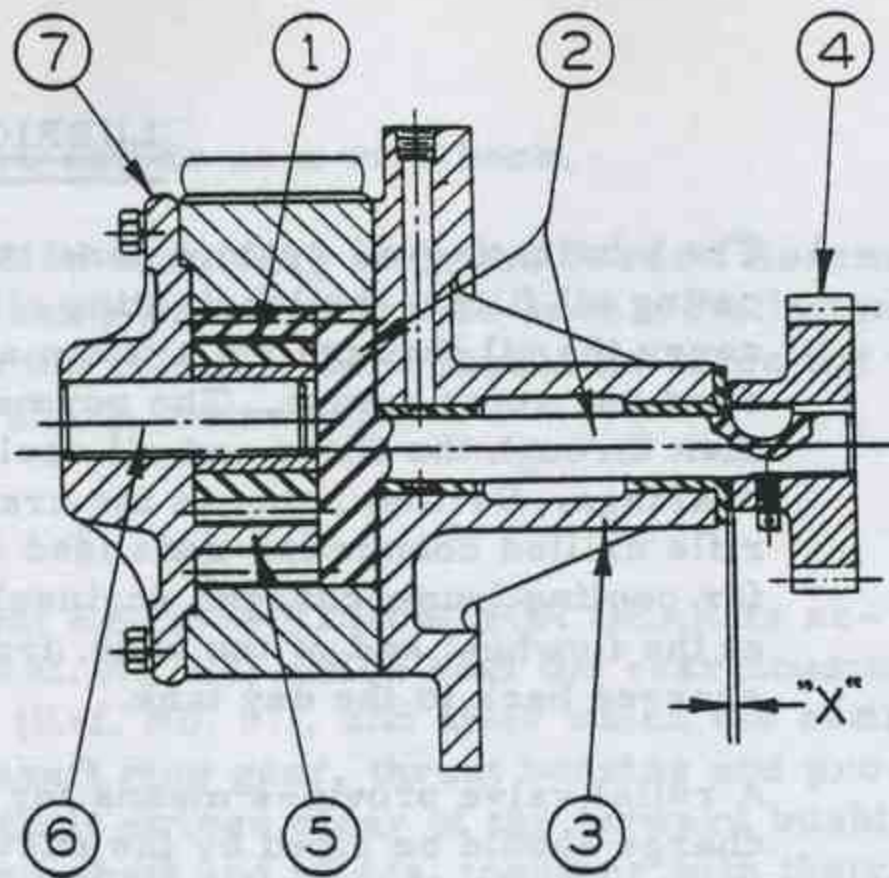
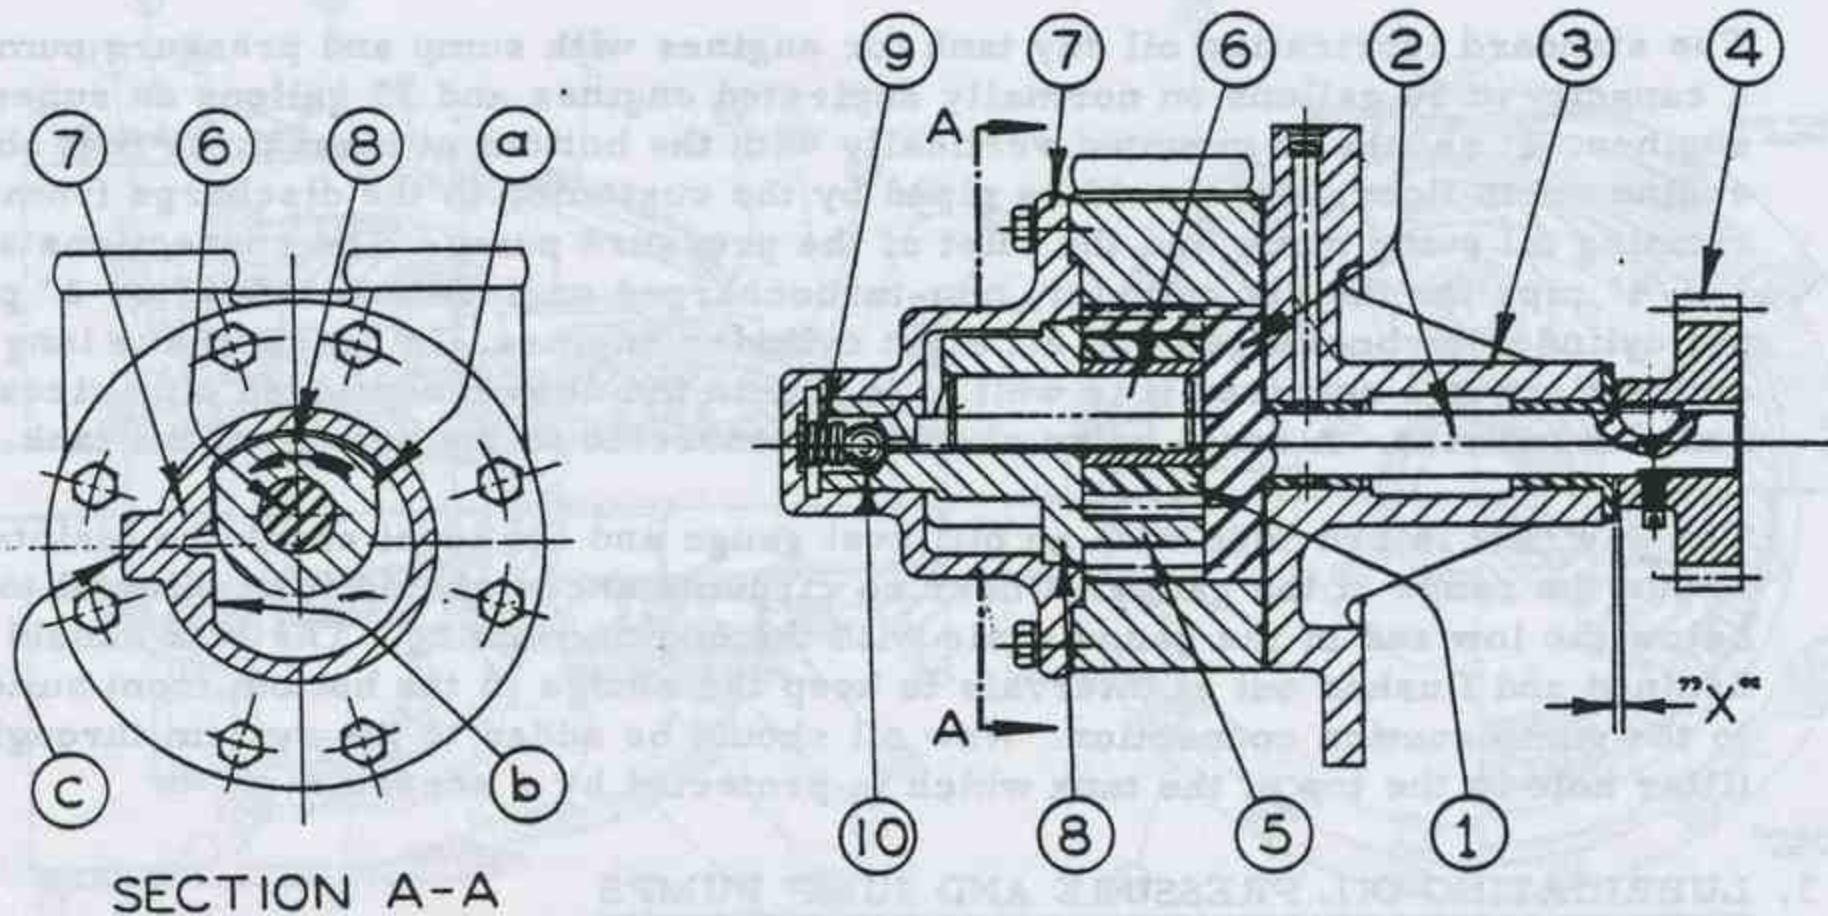

FIG. T-1
FIG. T-2
of a small idler pinion meshing with internal teeth on a larger driving gear. Fig. T-1 shows the pump used on stationary and reverse gear marine engines. Driving gear (2) with its shaft extension is driven by gear (4) and is bearinged in housing (3). Idler gear (1) is bearinged on a pin (6) which in turn is pressed into cover (7). The external driving gear and the pinion mesh at the top on Fig. T-1, and since the idler pinion is mounted eccentrically relative to the driving gear there will be a space at the bottom between the two gears. This space is filled up by a crescent shaped baffle (5) which is part of cover (7). As the driving gear turns oil is then forced from one side of the pump to the other by the action of the two gears meshing and the crescent shaped baffle. Also by these means the suction and discharge connections can easily be exchanged for a given direction of rotation by turning cover (7) 180°. Alternatively the suction and discharge connections can be kept the same for different directions of rotation by turning the cover 180°.
The lubricating oil pumps on direct reversible marine engines are shown on Fig. T-2 in which similar parts have the same reference number as on Fig. T-1. In this case, however, pin (6) on which pinion (1) turns is mounted in a carrier (8) which in turn is held by, and can turn in, cover (7). Crescent (5) in this case is a part of the carrier. The carrier assembly is pressed against the driving gear by spring (9) and ball (10) and will consequently tend to follow the rotation of the gear. Assuming, for example, that the driving gear (2) rotates in the direction of rotation shown by the arrow in Section A-A of Fig. T-2, then the whole carrier assembly, including the pinion, will
The total end play of the pump drive gear should be very small, only about .002" to .003". However, some end play must be allowed. This is particularly important on marine engines. When the engine is reversed the crescent can then move in the new direction of rotation until it is up against the stop. The end play "X" (refer to Fig. T-1 and T-2) between the drive gear (4) and housing (3) should be .003" to .005" with the drive gear against the housing face.